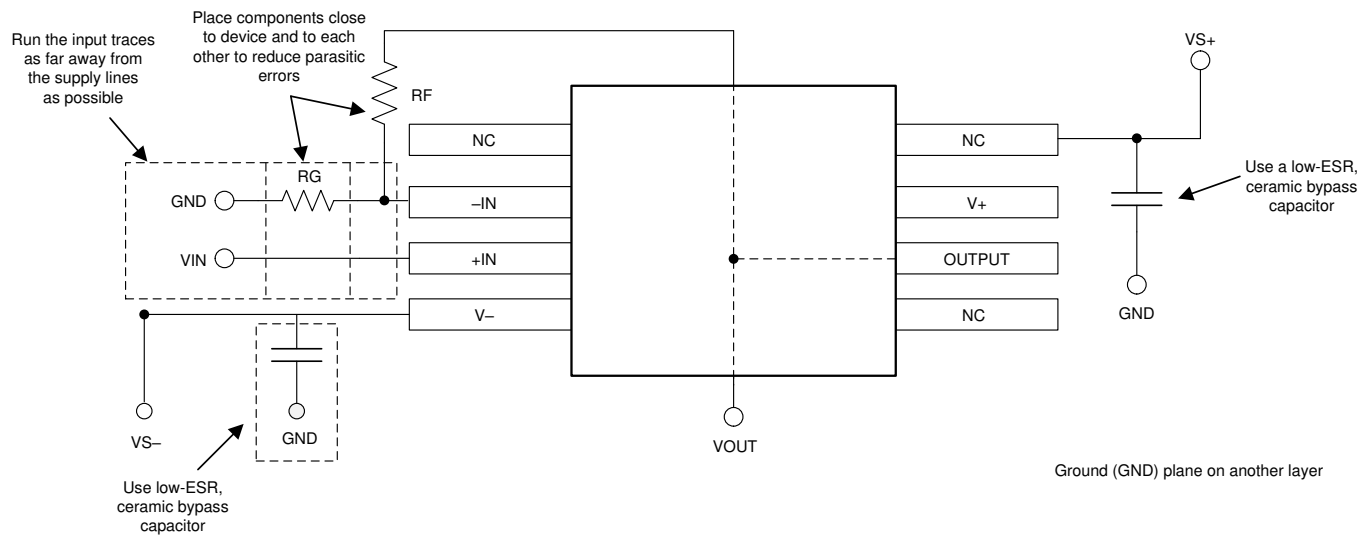

图 7. Operational Amplifier Board Layout for Noninverting Configuration
- Place the external components as close to the device as possible. As illustrated in 图 7, keeping RF and RG close to the inverting input minimizes parasitic capacitance.